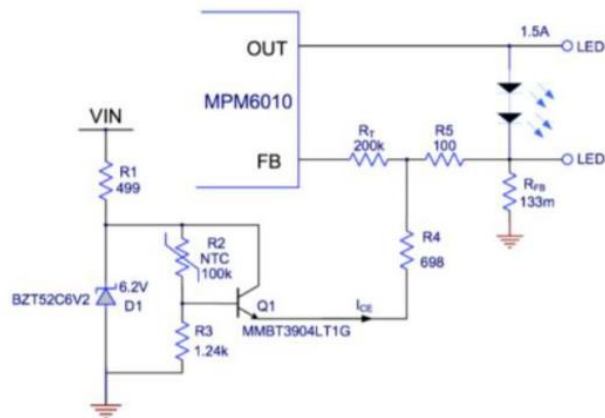

Figure 5 MPM6010 Thermal Foldback Circuit
Lastly, the MPM6010-AEC1 supports LED thermal management by employing thermal foldback techniques using either its PWM dimming input (EN/DIM) or the LED current regulation feedback pin (FB). Figure 5 shows one such implementation of the latter: when the temperature tracked by the external thermistor reaches its critical threshold, the current delivered to the LEDs is throttled back. This circuit, coupled with built-in safety features such as thermal shutdown and open/short LED detection, helps to maintain the LEDs within a safe operating margin that can better ensure a long lifespan.